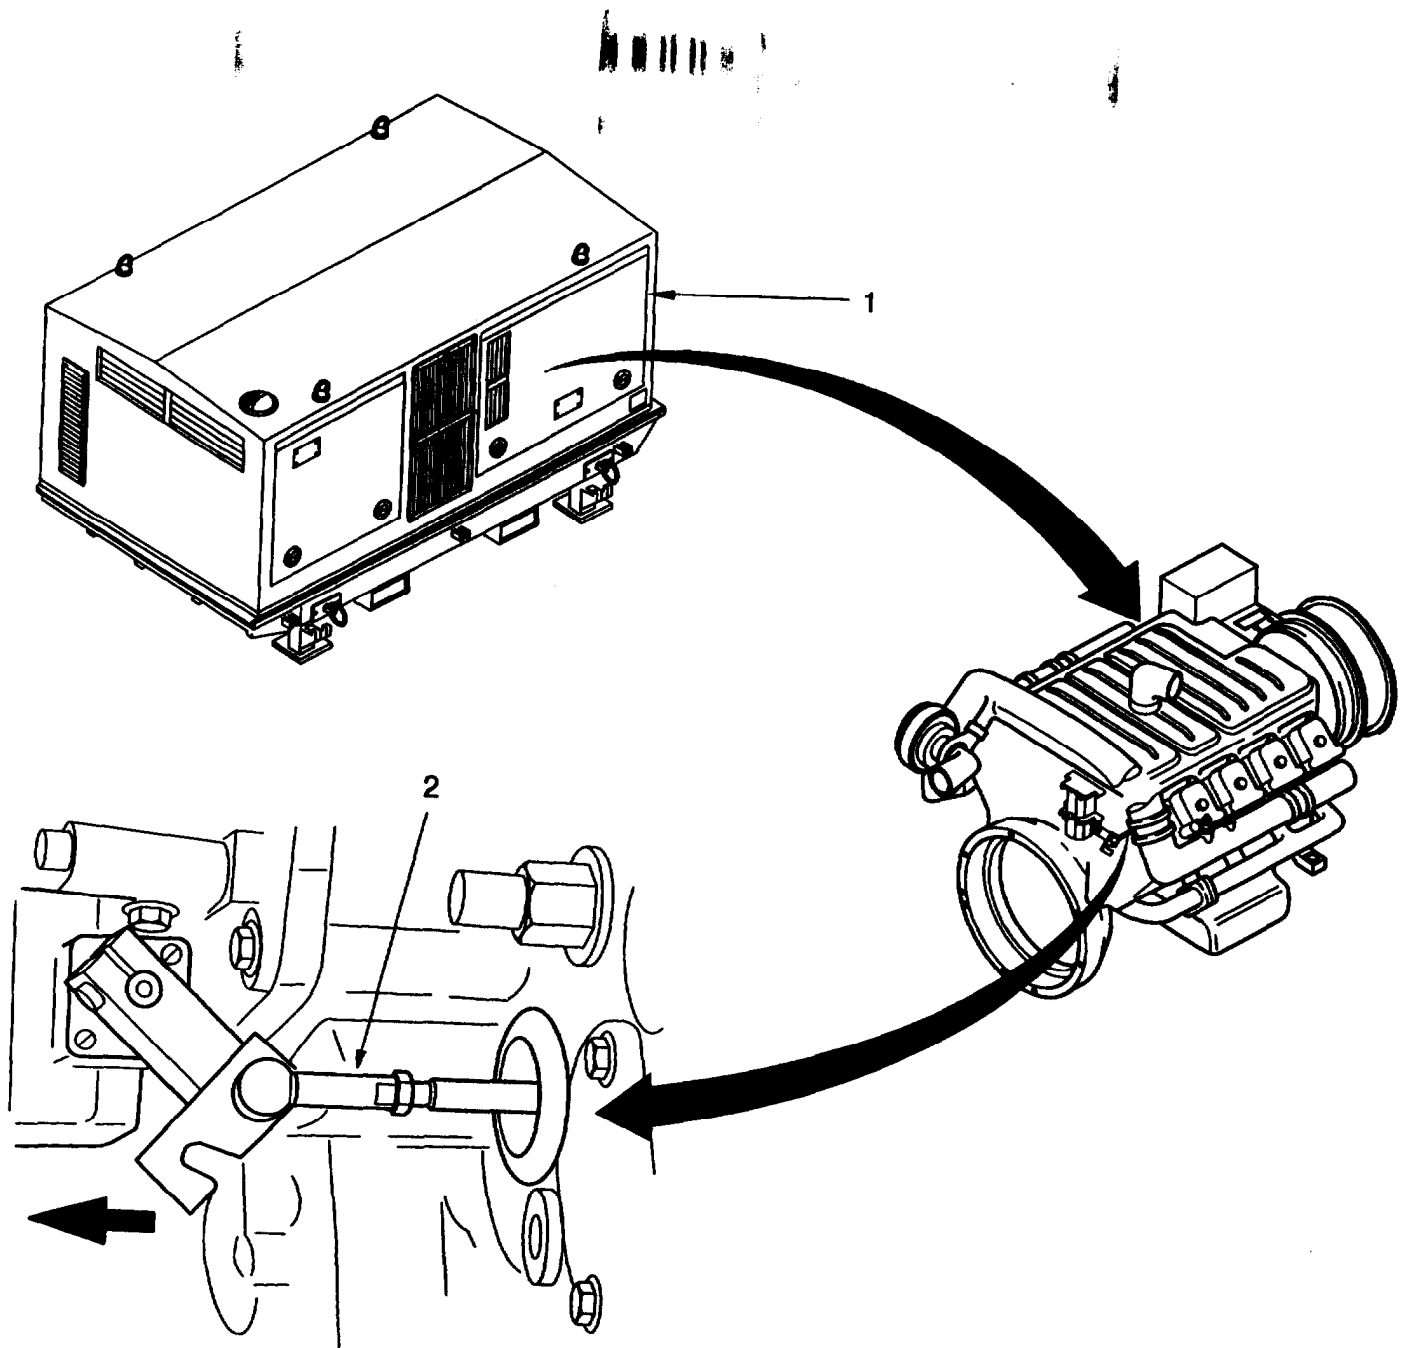

Figure 2-29 Fuel Injection Pump Actuator Linkage.
6. Have a second person open flap (1, figure 2-29) and pull the fuel injection pump actuator rod (2) in the direction of the arrow.